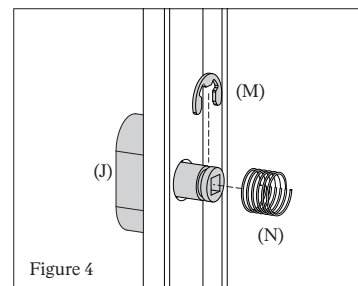

Figure 4
7. ***Privacy Only*** Slide nylon washer (L) over neck of privacy turn (J). Place privacy turn (J) through the privacy hole in your backplate with spindle housing (B). From the underside of backplate (B) slide spring (N) over snib neck and fix E-clip (M) to groove in the privacy turn. Repeat for emergency release (K). Figure 4 & 5.